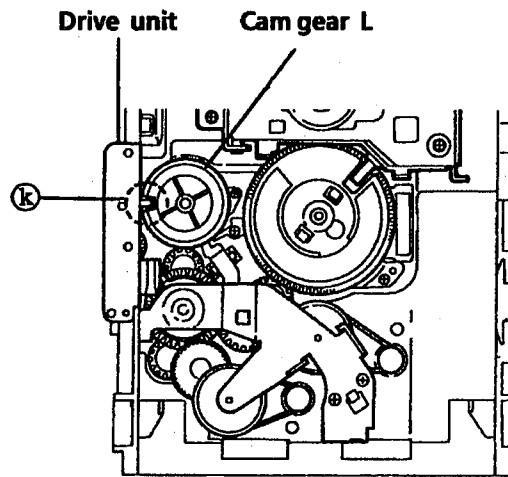

Fig. 34
2. Rotate the Cam gear L so that the drive unit's pawl ⑥ is positioned as shown in Fig. 34.